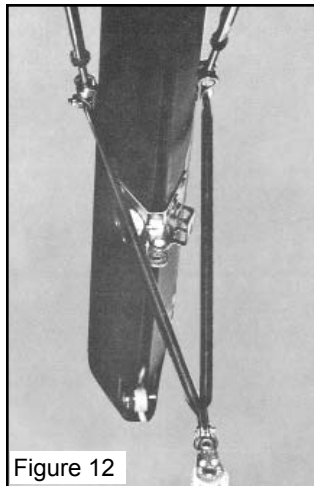

Figure 12
12. Hold the two arms of the yoke (1-9) together at the ends with the small holes. Attach the small block (1-10) and shackle (1-11) to this end, see Figure 12. (There is a short line packed with the MRCY, set it to one side for now.)
NOTE: The style of rotator yoke shown in Figure 12 is the older mast rotator style. Current models do not have a pulley. See page 20 for details on the new style.